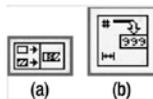

Figure 10-12. (a) *The Concatenate String Function and (b) the Number to Decimal String Function*
- **Concatenate String:** This function is used to combine two or more strings (see Figure 10-12(a)).
- **Number to Decimal String:** This function converts a numerical value to a string value (see Figure 10-12(b)).